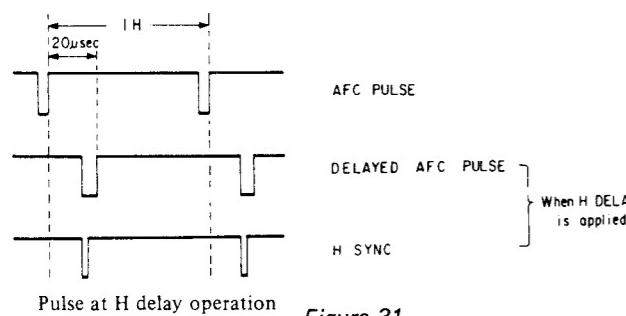

Figure 31
In this model H delay function is performed by delaying H. AFC pulse in the horizontal AFC circuit. (See Figure 31) H. AFC pulse which is fed from H.O.T. (Horizontal Output transformer) is wave shaped and is delayed about 20  $\mu$ s by IC1 (2/2). This delayed pulse is integrated by inductor L1, and capacitor C14, thus sawtooth waveform is obtained and fed to terminal pin ④ of IC4. AFC detection is performed by IC4. Output of AFC detector is fed to control terminal of horizontal oscillator (H.OSC) via low pass filter composed of capacitor C12, C15 and resistor R10. 3 types of AFC mode are selected by changing low pass filter which determines AFC time constant. AFC time constant circuit is composed of switch S1, resistor R13, R14, R15 and capacitor C17, C18.